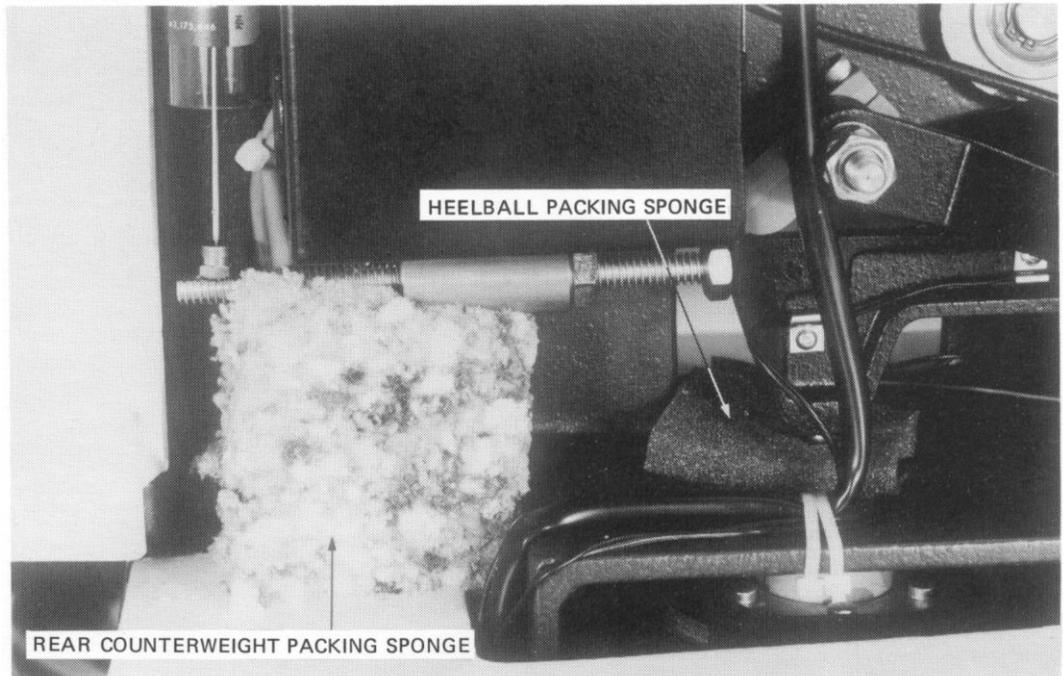

FIG. 5-3 MAIN HEAD PACKAGING - INNER LEFT SIDE
- 5.1.15 Remove the sponge packing from beneath the rear counterweight rod of the bonding head (Fig 5-3).